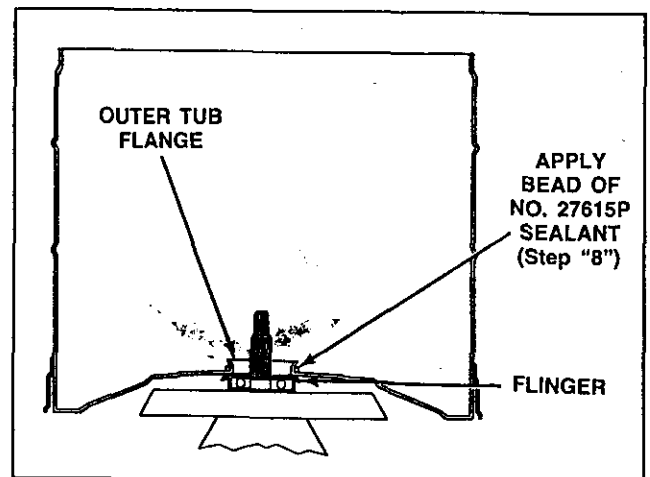

Figure 2
8. Apply a small amount of No. 27615P Sealant (supplied in kit) around the outer surface of the tub flange, *Figure 2*.
IMPORTANT: DO NOT allow sealant to get in contact with the flinger, *Figure 2*, as this could prevent the flinger from keeping moisture out of the upper bearing.